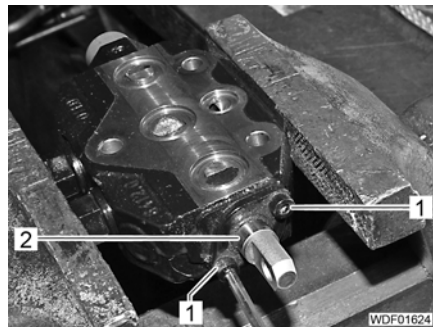

Fig. 240 Guide of the control piston
- Unscrew 2 bolts (Fig. 240,1).
- Remove cover (Fig. 240,2) with dust ring.